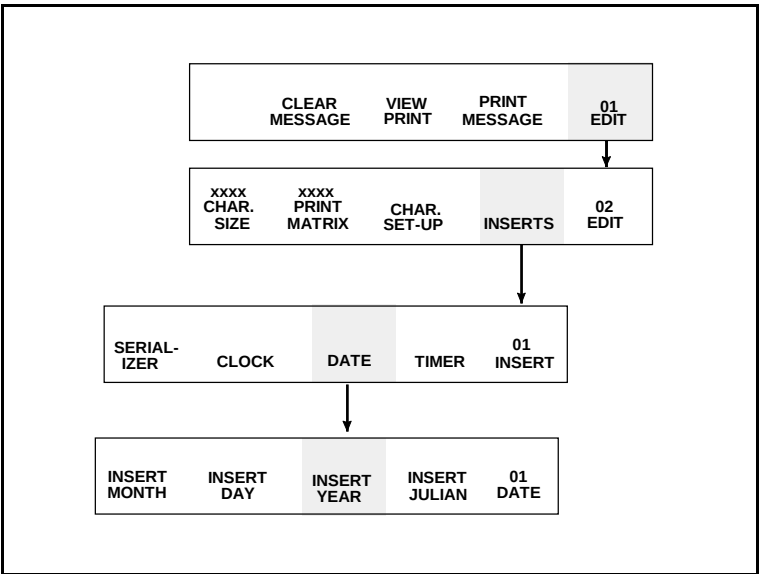

Figure 6-27. Accessing Frame <01 DATE>
- 1. Begin in Frame <01 DATE>. Refer to Figure 6-27.